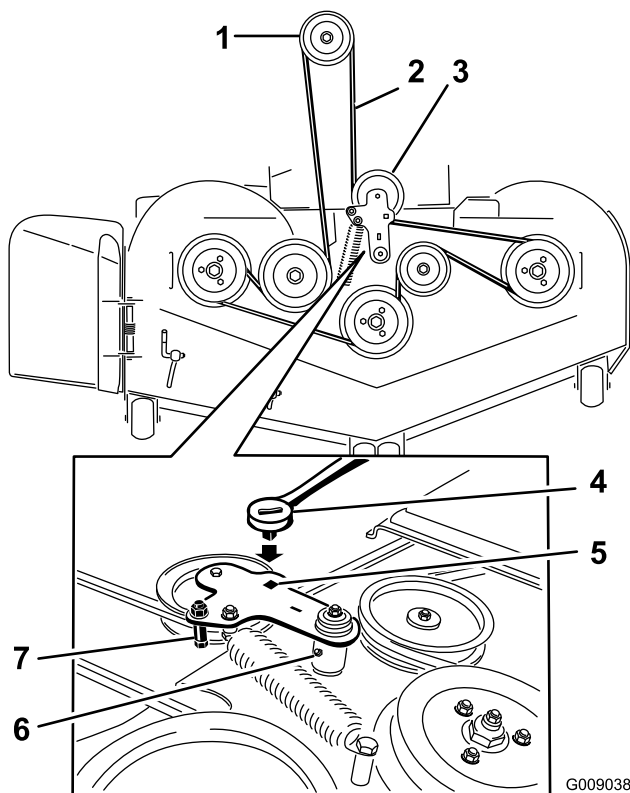

Figure 88
5. Use a ratchet in the square hole in the idler arm to remove tension on the idler spring (Figure 88).
7. Remove the belt guide on the spring-loaded idler arm (Figure 88).
9. Install the new belt around the mower pulleys and the clutch pulley under the engine (Figure 88).
10. Install the belt guide on the idler arm (Figure 88).
11. Using the ratchet in the square hole, install the idler spring (Figure 88).